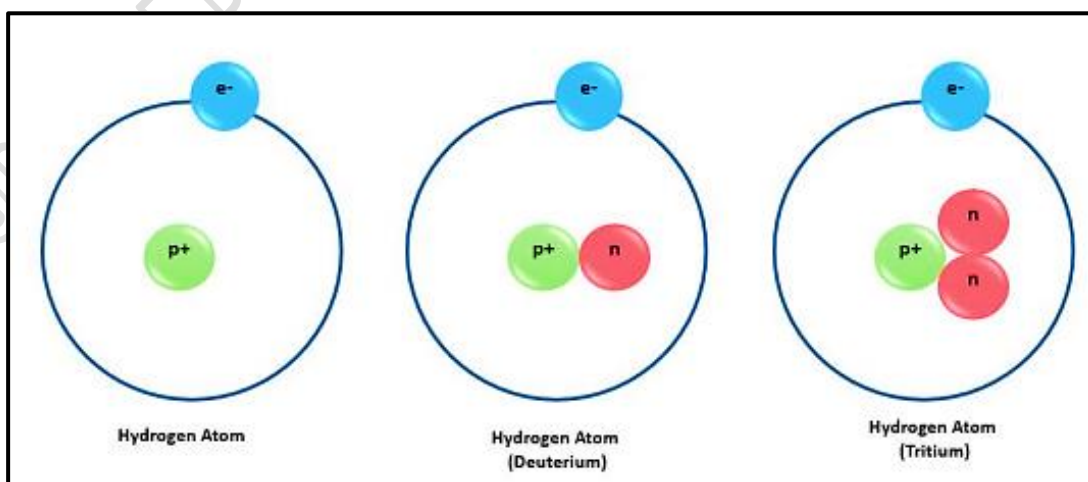

Fig. 1.8: Isotopes of Hydrogen
- **Protium (¹H):** It is the most common form of hydrogen, with one proton and no neutrons in its nucleus (Fig. 1.8).